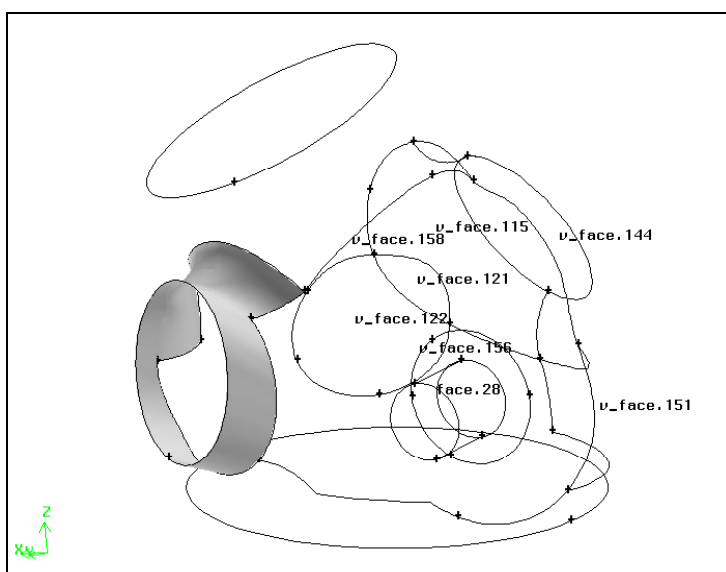

Figure 13-16: Geometry involved in large-angle cleanup operation
GAMBIT highlights the geometry that constitutes the item to be cleaned up (see Figure 13-16). In this case, the item consists of a set of faces, each of which is connected to the others and forms at least one large angle with others in the set. The **Clean Up Large Angles** operation uses a Merge faces procedure to eliminate any large angle.
- e) Manually select the face shown as shaded in Figure 13-16, above, to include it in the **Faces to merge** list.